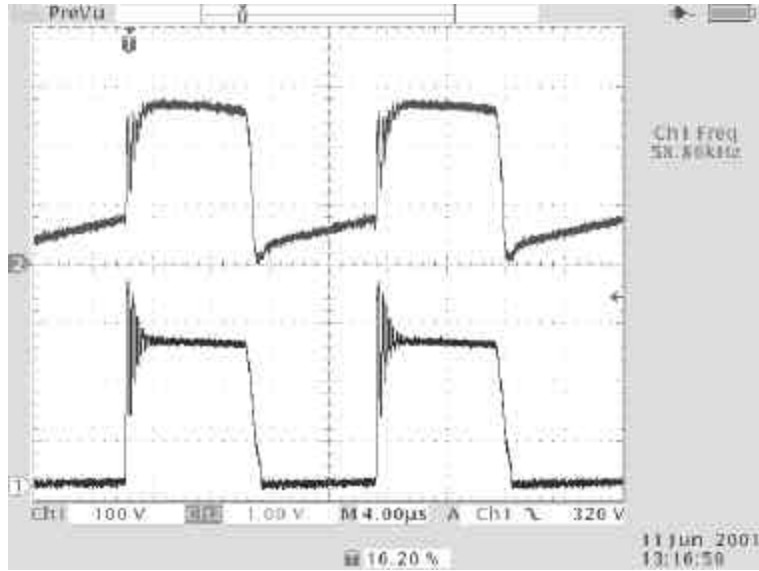
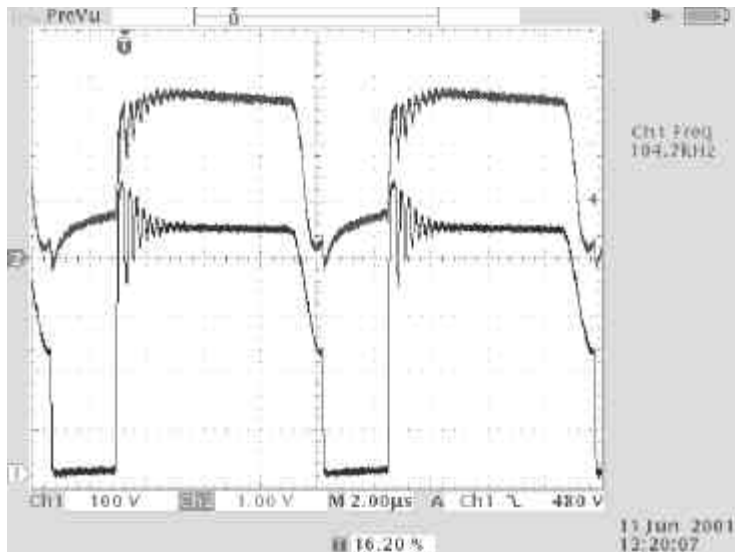
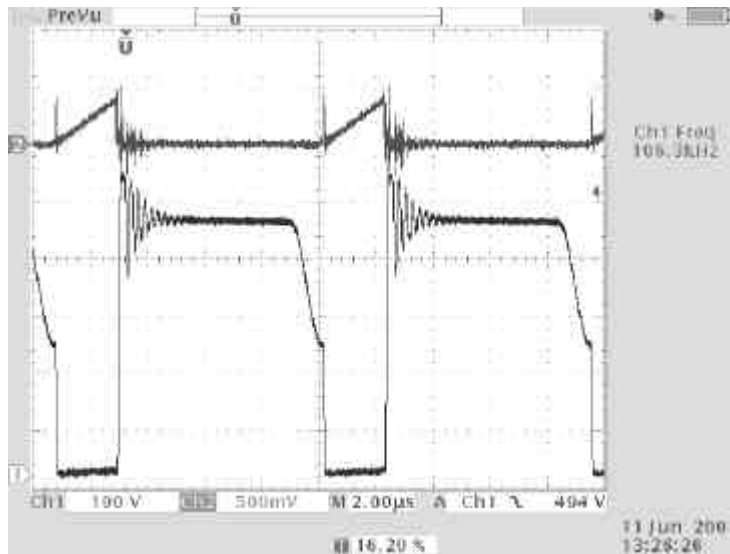

Fig 2) Drain (D) voltage of IRIS4011 (CH1) and the FB pin voltage (CH2) at 90VAC in/Full load output
Fig 3) Drain (D) voltage of IRIS4011 (CH1) and the FB pin voltage (CH2) at 230VAC in/Full load output
Fig 4) Drain (D) voltage of IRIS4011 (CH1) and the source(S) pin voltage (CH2) at 230VAC in/Full load output
Fig 2) shows the drain voltage and the feedback pin (FB) voltage. In this case the quasi-resonant signal swings all the way to zero volts at the drain before the FET is turned on, and hence under these conditions the circuit turns the FET on with zero voltage switching, due to the quasi-resonant switching. The FB pin signal shows the current ramp when the FET is on (when the drain voltage is low), and the resonant signal being passed back during the FET off time. Note the operating frequency.
Fig 3) shows the same waveforms as in fig 2) again with a full load output, but this time with a 230VAC input. Note that the operating frequency has now increased, and the effect of the quasi-resonant switching is now more pronounced. This is evident by the quarter sine wave nature of the falling edge of the drain waveform, at the bottom of which the FET is turned on, ensuring that it is turned on at the minimum possible voltage to reduce the switching losses. Note also the steeper ramp in the FB pin voltage when the FET is on which results in a shorter on time.
Fig 4) shows the same conditions as for fig 3), but this time it shows the Source (S) pin voltage with the drain voltage showing the effect of the primary current ramp, which is seen as a voltage generated across the current sense resistors R9/R10. Note that this waveform shows some noise on the source pin voltage which is smoothed out by the RC filter comprising R8 and C11. The initial voltage spike at the start of the ramp is a result of discharging the quasi-resonant capacitor C5 and the primary winding capacitance of the transformer.